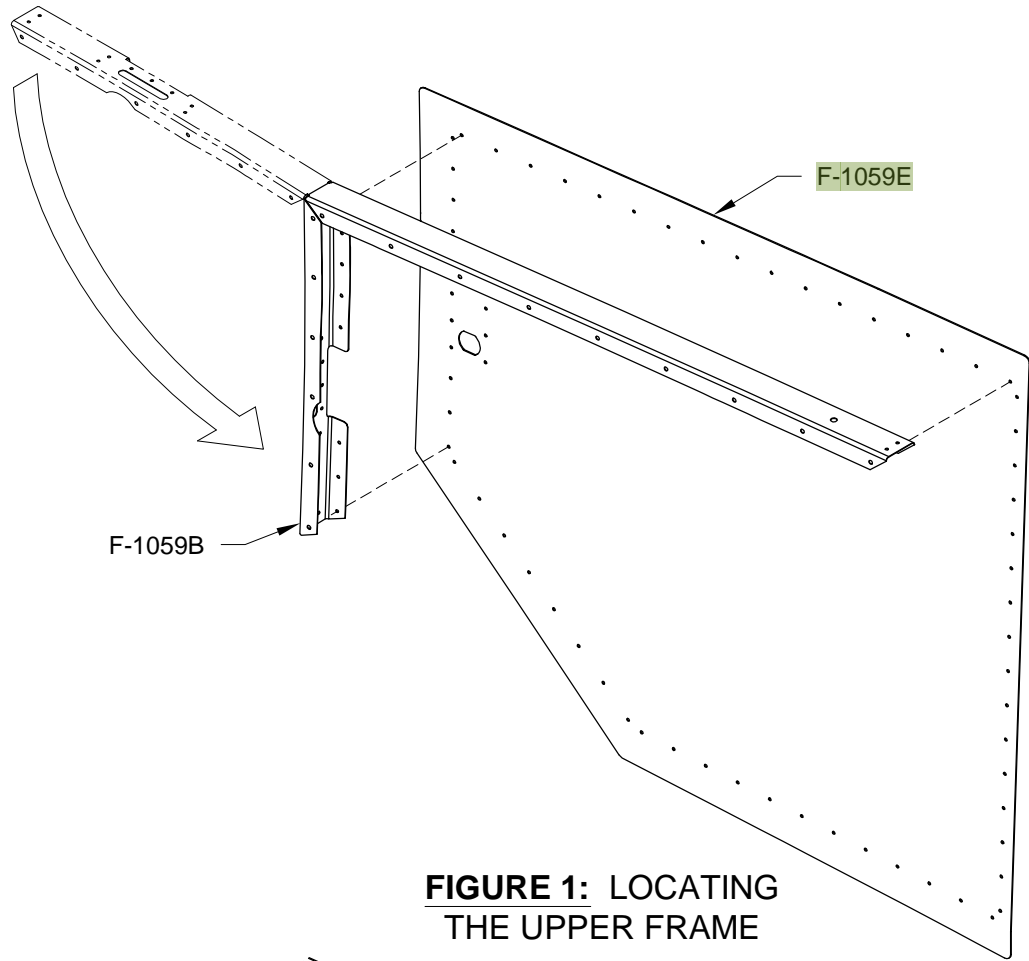

FIGURE 1: LOCATING THE UPPER FRAME
Step 1: Bend the F-1059B Upper Frame by hand as shown in Figure 1. The bend will form naturally between the notches.
Step 2: Cleco the F-1059B Upper Frame to the F-1059E Skin as shown in Figure 1.